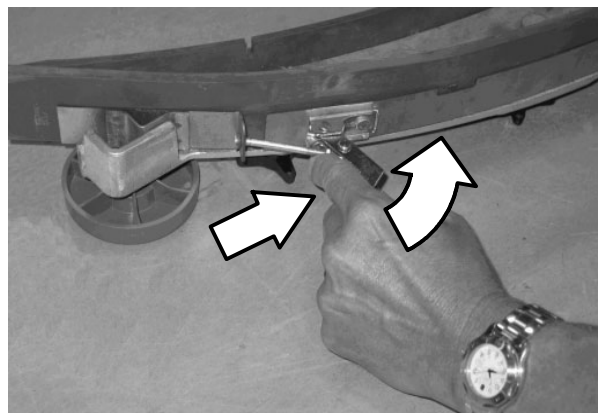

FIG. 7
10. Tighten the squeegee strap assembly (6) tension latch. Refer to Fig. 7.